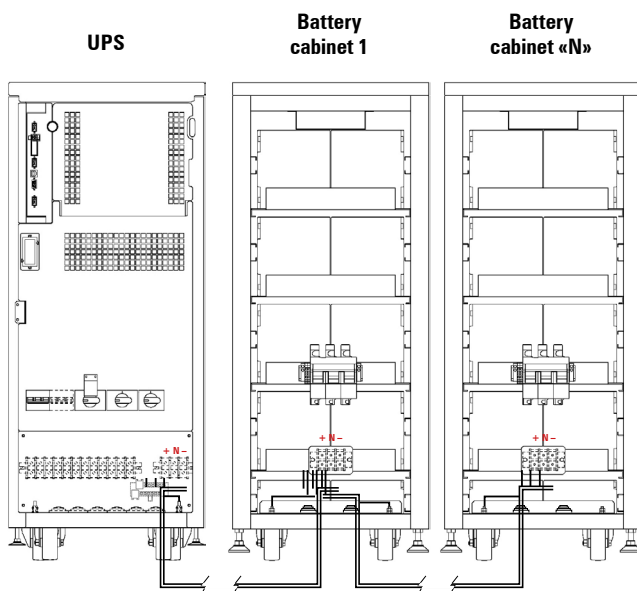

Fig. 35. Example of connection between UPS and two battery cabinets.
The connection of each UPS with the battery cabinet will be done with the supplied cable bundle, by connecting one side to terminals (X11), (X23), (X12) and (X10) of UPS and the other one to terminals (X47), (X49), (X48) and (X10) of battery module, always respecting the stated polarity on the labelling of each element and this manual, as well as the colour of the cables (red for positive, black for negative, blue for middle tap (N) and green-yellow for earth bonding), see Fig. 35.